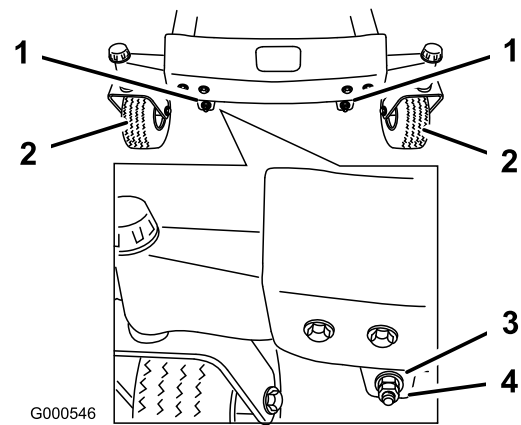
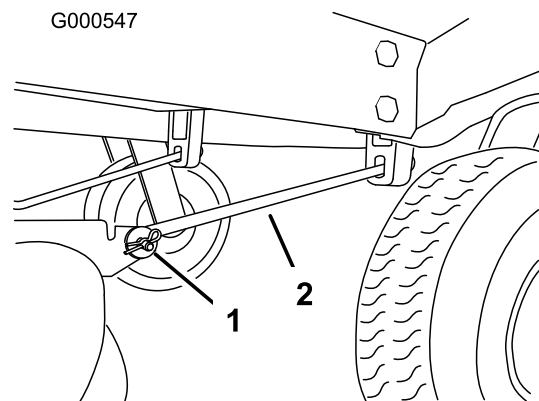

Figure 57
Figure 58
11. To adjust the front-to-rear blade slope, remove the locknuts and then rotate the adjustment nuts in the front of the mower (Figure 57).
13. After adjusting both adjustment nuts evenly, check the front-to-rear slope again. Continue adjusting the nuts until the front blade tip is 1/16-5/16 inch (1.6-7.9 mm) lower than the rear blade tip (Figure 57).
Note: After adjusting the adjustment nuts, make sure there is no slack in either support rod (Figure 58). Tighten either one to remove the slack (Figure 57).
4. Remove the hairpin cotter and clevis pin from the front support rod on each side of the mower (Figure 58).
8. Attach the front support rods to the machine with the clevis pins and hairpin cottes (Figure 58).